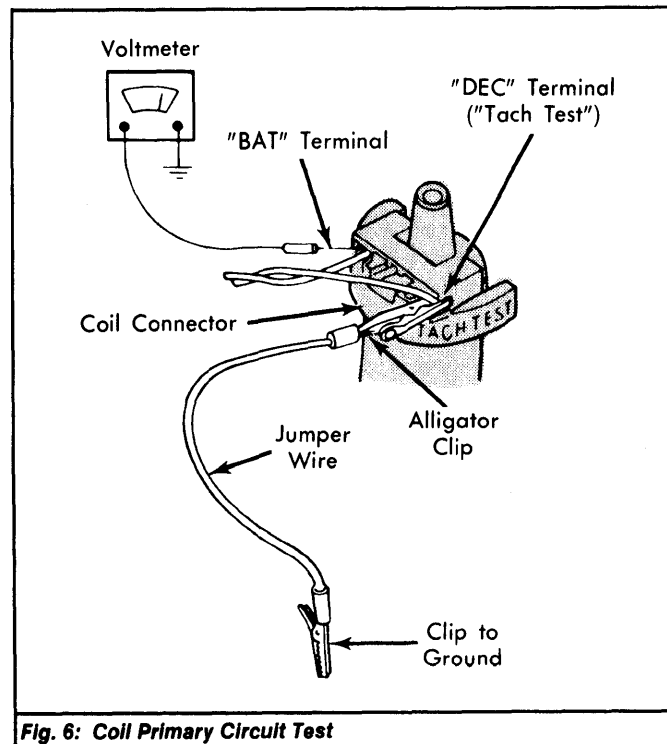

Fig. 6: Coil Primary Circuit Test
- 6) If voltage in step 4) was battery voltage, make sure coil connector is fully engaged on primary terminals of ignition coil. Ground the "TACH TEST" terminal of coil. See Fig. 6. Connect voltmeter positive lead to coil "BAT" terminal and negative lead to ground.